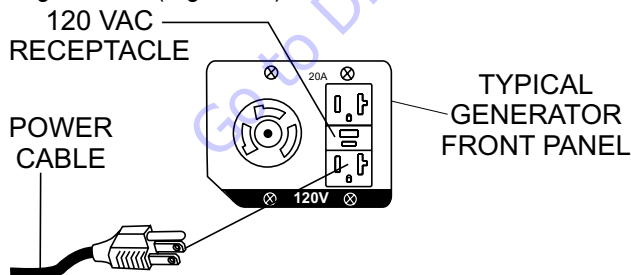

Figure 22. Connecting to Power Source
3. Connect the AC power cord to a 120 VAC external power source or to a 120 VAC receptacle on a generator (Figure 22).